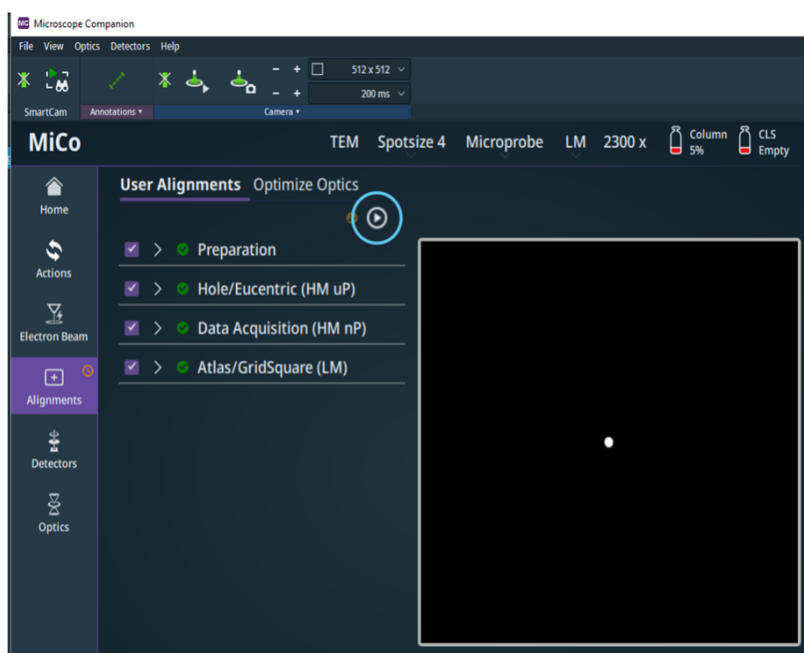
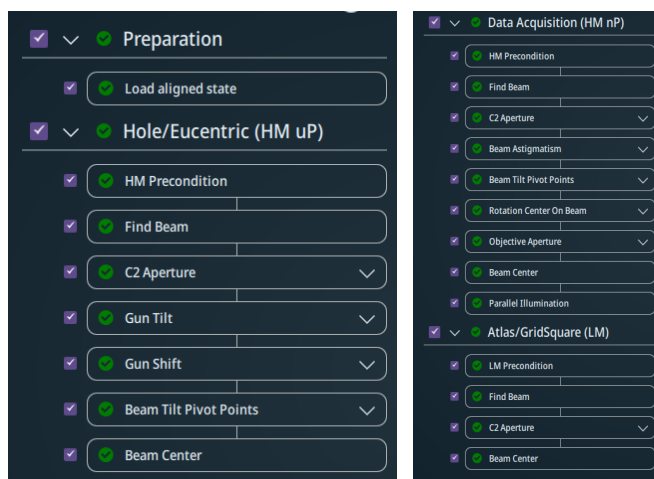

Figure 3: Start the user alignments using the start button, highlighted with the blue circle.
Figure 4: The steps that comprise the User Alignments
- 4.4.4. In MiCo -> *Alignments* -> User Alignments, make sure all checkboxes are selected. Press the play button (Figure 3). Wait for the tasks to run and for each task to be marked as completed with a green check (Figure 4).